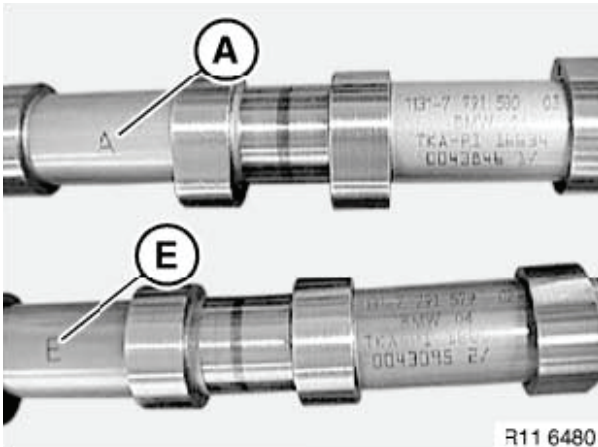

Figure 5-102
2. Identify the intake (Figure 5-102, (E)) and exhaust (Figure 5-102, (A)) camshafts.